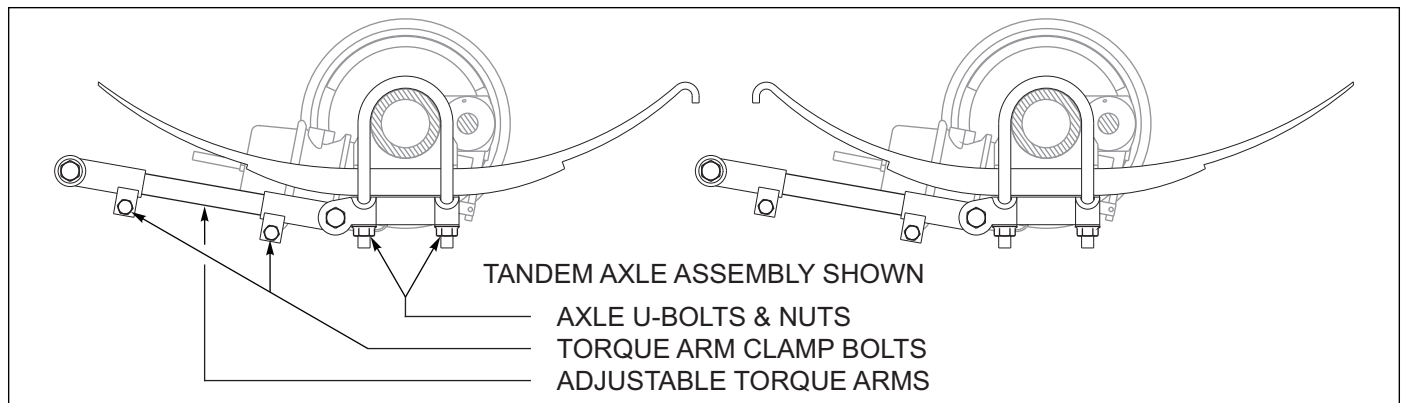

Figure 4-7: Spring Ride Adjustable Torque Arm
6. Align if measurement requires: Loosen the adjustable torque arm clamp bolts. Slightly loosen the axle u-bolt sets evenly on each side of the axle, *See Figure 4-7.*
7. Turn the adjustable torque arm clockwise or counter-clockwise to adjust. Repeat Steps 5-7 until measurement is achieved. **See Figure 4-7.**
3. Align if measurement requires: Loosen the adjustable torque arm clamp bolts. Slightly loosen the axle u-bolt sets evenly on each side of the axle, **See Figure 4-7.**
4. Turn the adjustable torque arm clockwise or counter-clockwise to adjust. Repeat Steps 5-7 until measurement is achieved. **See Figure 4-7.**